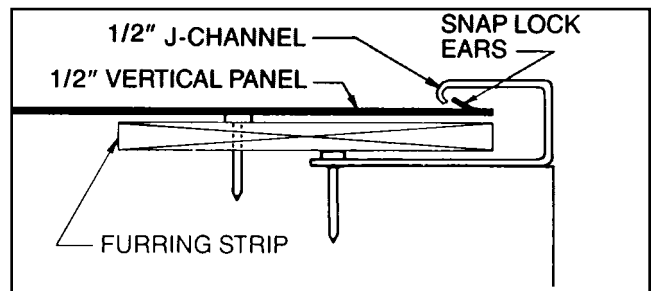

Fig 8.7
- C. If the final siding panel is cut down outside the V-groove and is being fitted into a 1/2" J-Channel (Fig. 8.7), prepare the panel using snaplock punch (see Fig. 6.6, page 13). Punch the panel 1/4" from the cut edge every 6" to 8" so that the ear or lug is raised on the outer siding face. A furring strip may be necessary to maintain a level surface plane and also to provide a secure fit.